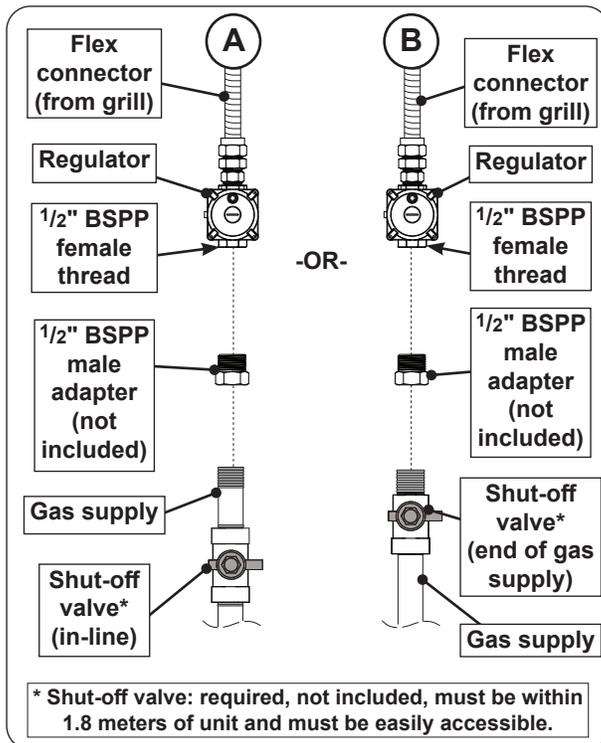

Fig. 24-1 Connecting to a gas line
- Install the gas supply to the regulator (1/2" BSPP female) using a 1/2" BSPP adapter (not included) (see Fig. 24-1, A). Tighten securely.
- Connect the shut-off valve (1/2" BSPP male) to the regulator (1/2" BSPP female) (see Fig. 24-1, B). Tighten securely.